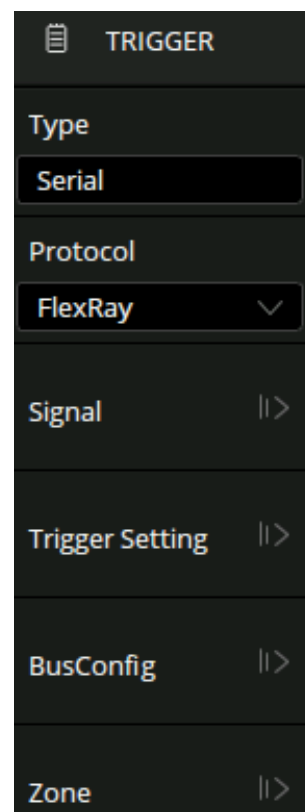

Figure 10.30
1. Touch the **Trigger** dialog box to display the **Trigger** menu. (Figure 10.30)